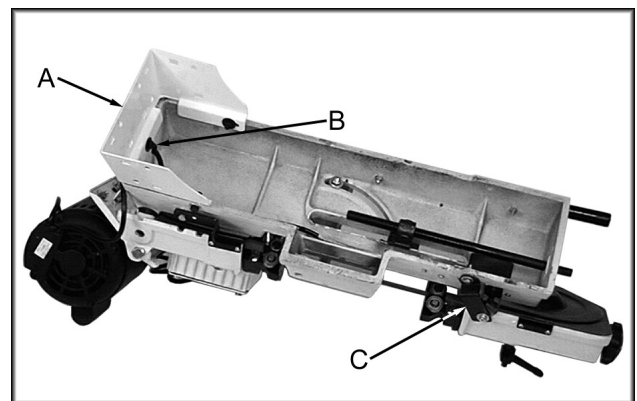

Fig. 1
1. With the help of another person turn the saw over so that it rests on the motor and saw bow, Figure 1. Place it on a piece of cardboard, or a surface that will not damage the saw.
2. Attach a cross brace (A, Fig. 1) to the motor side of the bed using three 5/16"x1" hex cap bolts, six 5/16" flat washers, and secure with three 5/16" hex nuts. **Hint:** Tighten the nut (B, Fig. 1) on the end of the bed first followed by the nuts on the sides.
4. Remove the brace (C, Fig. 1) on the opposite end of the bed and bow using a 10mm wrench.